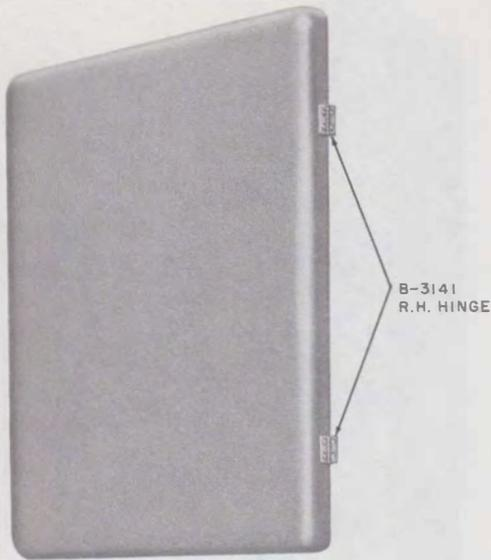

Fig. 31—Cover Per ED-69463-50 Group 9
4.06 The ED-69463-50 Group 9 (Fig. 31) cover is a formed plastic cover hinged on the right side and held closed by magnetic catches. The hinges are the lift-a-way type to simplify installation and removal for maintenance. The keepers for the magnetic catches are mounted on the left side of the gate. The cover becomes part of the gate and the gate can be opened without disturbing the cover. Two Group 9 covers are required for one Group 8 relay rack. One half of the B-314 R.H. hinges is mounted on the relay rack gate and the other half is riveted to the Group 9 cover.